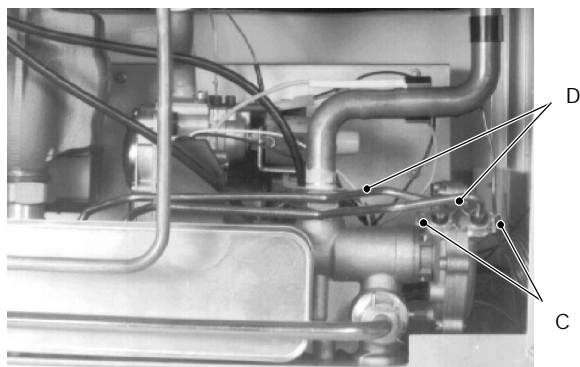

fig. 25
- 2 Remove the forks C and move away the pipes D. (fig. 25 – rear view of the boiler).